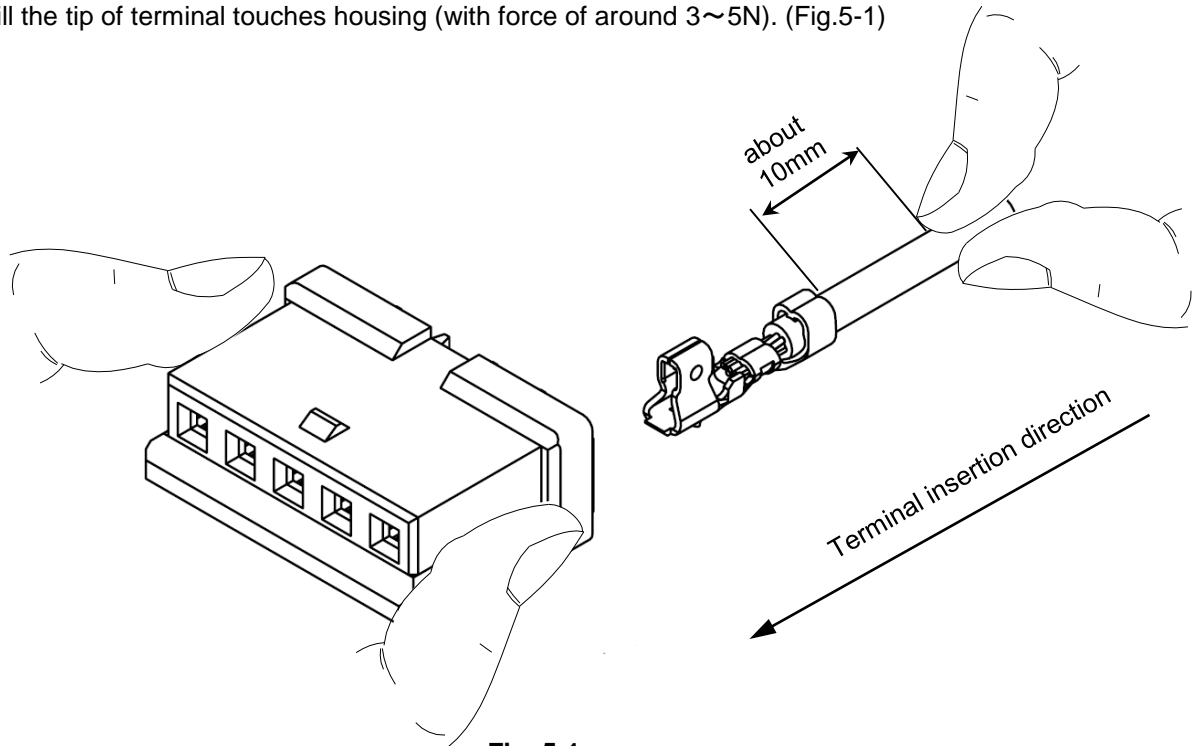

Fig. 5-1
1. Hold receptacle housing by pinching right and left side softly. (Fig.5-1)
2. Please hold the cable at about 10mm away from the crimped portion with fingers lightly. (Fig.5-1)
3. Hold wire and have terminal lance part toward receptacle housing, then insert terminal slowly and straightly till the tip of terminal touches housing (with force of around 3~5N). (Fig.5-1)